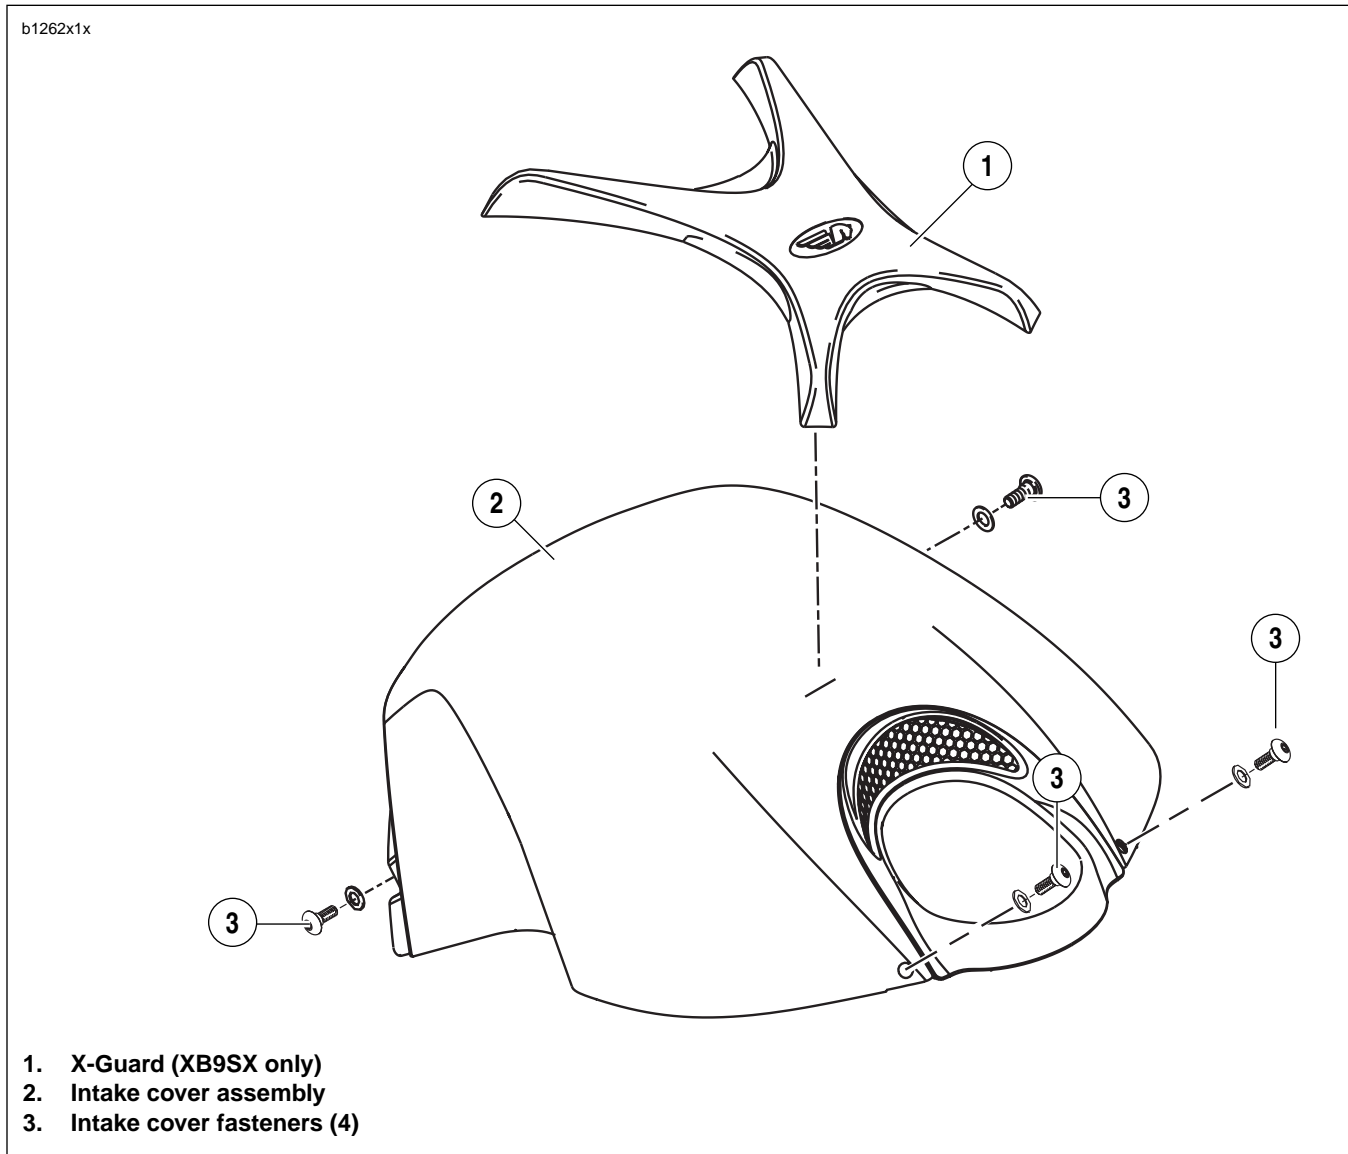

Figure 2-121. Intake Cover Assembly
2. See Figure 2-121. Remove fasteners and nylon washers (2).
3. Remove intake cover assembly (1).
2. See Figure 2-121. Start the front two fasteners (2) with nylon washers.
3. Install the remaining fasteners and nylon washers (2). Tighten all fasteners to 12-36 **in-lbs** (1-4 Nm).